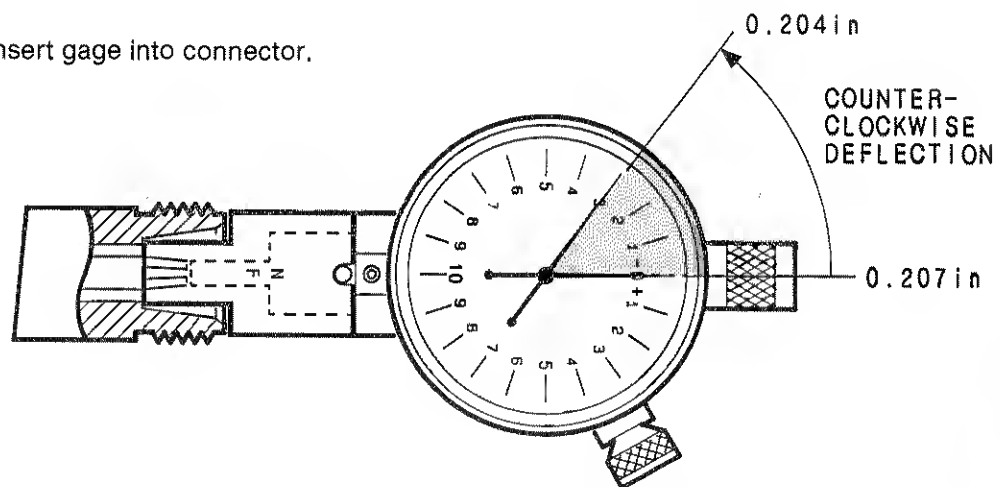

Figure 20. Gaging Type-N Connectors (2 of 2)
**Female Type-N Connectors.** To gage female Type-N connectors (Figure 20), first attach the bushing for female connectors to the dial indicator assembly. This bushing has a protruding circular sleeve, and when the bushing has been attached to the dial indicator assembly the gage plunger will be inside this circular sleeve. The bushing is fastened to the gage plunger assembly using the two Allen screws in the bushing.